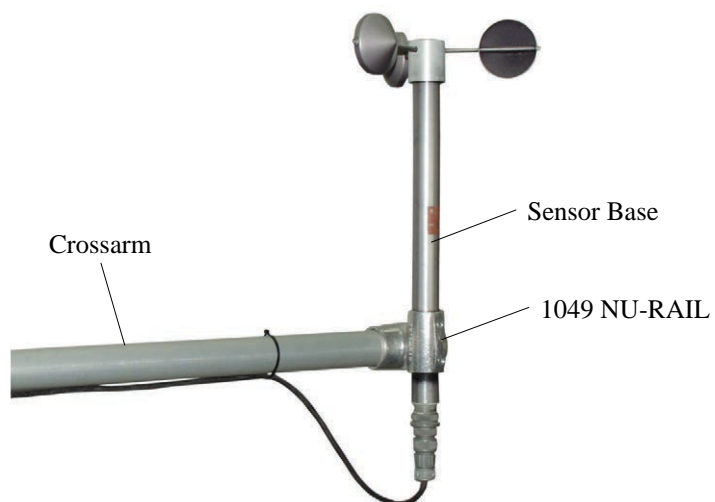

FIGURE 4-3. 014A mounted on a crossarm with pn 1049
- 1049 3/4 x 1 inch NU-RAIL® Crossover Fitting (FIGURE 4-3), or
3. Insert the base of the 014A into the 1049 NU-RAIL or CM220 U-bolt (FIGURES 4-3, 4-4) and tighten the set screws on the NU-RAIL, or U-bolt on the CM220 (do not over tighten).